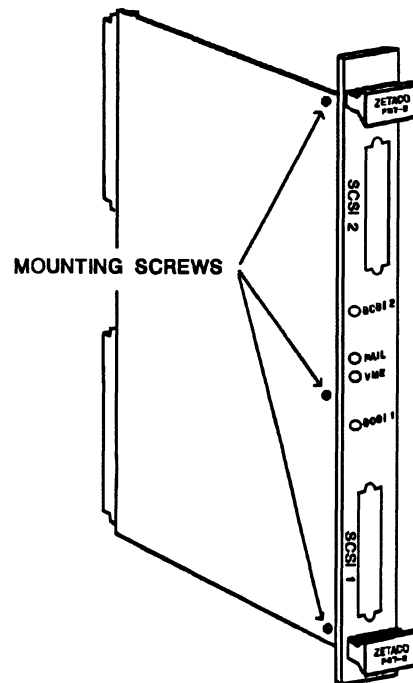

Figure 2.23 - Adapter Faceplate & Mounting Screws
1. In order to install either a single-ended or differential daughterboard, the FST-2 faceplate must be removed. Carefully remove all three screws and nuts from the top of the Adapter (see Figure 2.23), using a small straight-blade screwdriver. There are three screws and nuts that attach the Adapter to the faceplate.